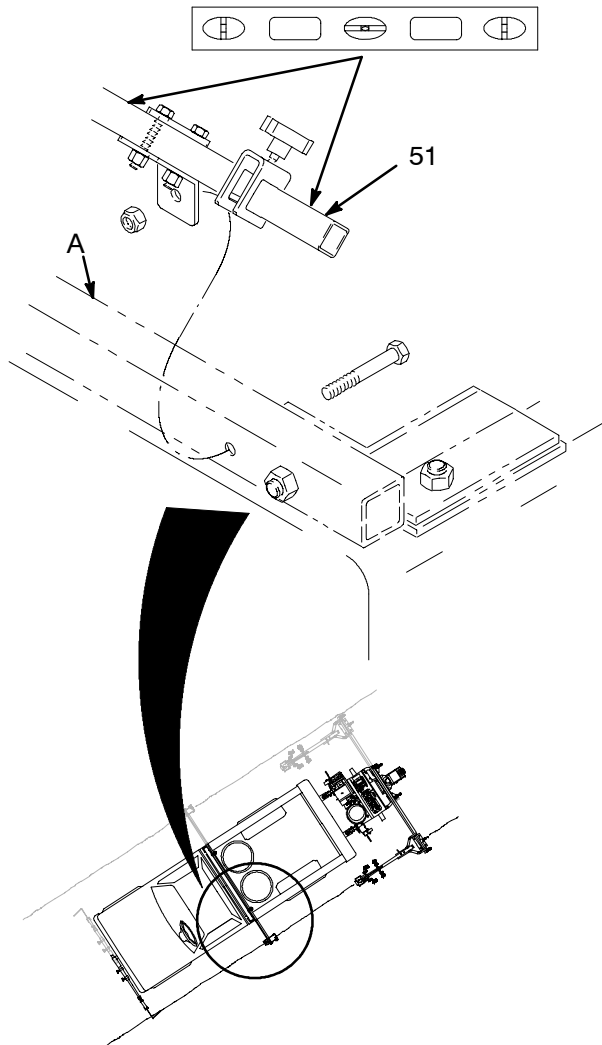

Fig. 1
1. Install suitable support rack (A, not provided) on top front of truck bed sidewalls. Center support rack on truck as shown in Fig. 1.
2. Install horizontal support bracket (51) on support rack. Make sure support bracket is level, as shown in Fig. 1.